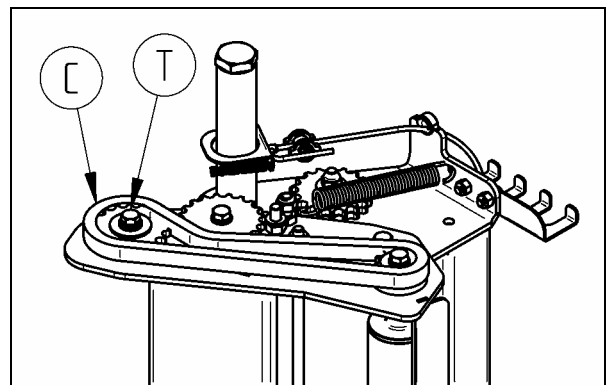

fig. 35 – Lubrication points of PSU
- Film stretcher assembly drive chain lubrication (fig.35, C).
- To lubricate gear chain of film stretcher (fig. 35, C). If the chain isn't tensed, to adjust the tensioner (fig. 35, T).
To check chain tension of rolls gear (fig.35). If it isn't tensed, you have to adjust it by tensioning pinion (fig.35, T).